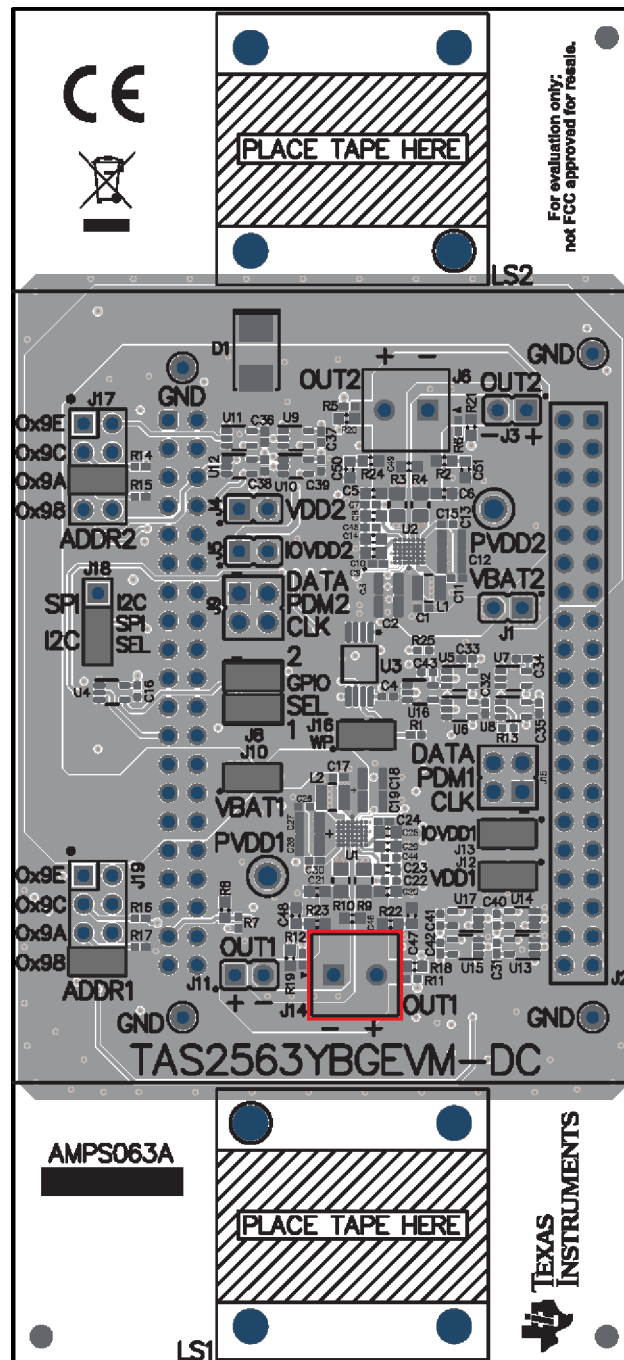

Figure 3. Mono Setup
3. Remove the jumpers at J1, J4, and J5 as shown in Figure 3.